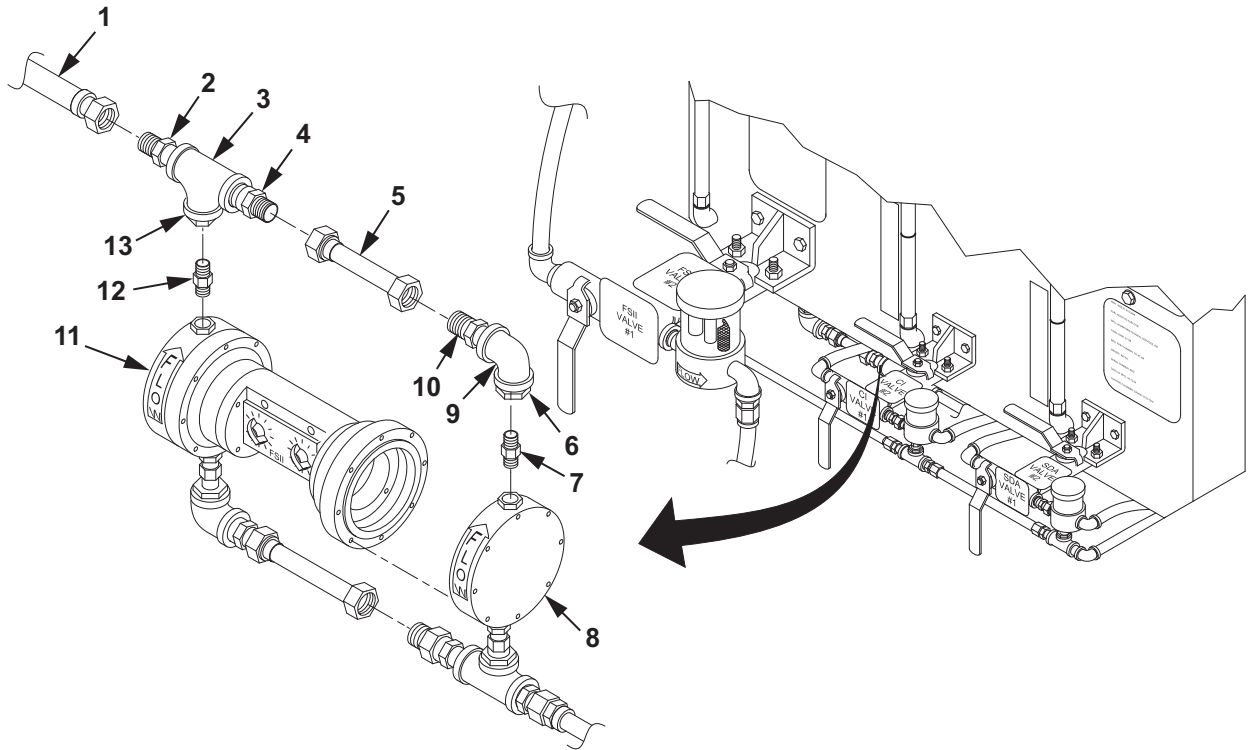

Figure 1. FSII Pump Discharge Check Valves Removal.
1. Place drain pan below tube assembly (Figure 1, Item 1).
2. Disconnect tube assembly (Figure 1, Item 1) from tube adapter (Figure 1, Item 2).
3. Disconnect tube assembly (Figure 1, Item 5) from tube adapter (Figure 1, Item 4).
4. Remove tee assembly (Figure 1, Item 3), tube adapters (Figure 1, Item 2, 4), reducer bushing (Figure 1, Item 13) and discharge check valve (Figure 1, Item 12) as an assembly from FSII pump (Figure 1, Item 11).
5. Remove discharge check valve (Figure 1, Item 12) from reducer bushing (Figure 1, Item 13).
6. Remove 90° elbow (Figure 1, Item 9), tube adapter (Figure 1, Item 10), reducer bushing (Figure 1, Item 6) and discharge check valve (Figure 1, Item 7) as an assembly from end cap assembly (Figure 1, Item 8).
7. Remove discharge check valve (Figure 1, Item 7) from reducer bushing (Figure 1, Item 6).